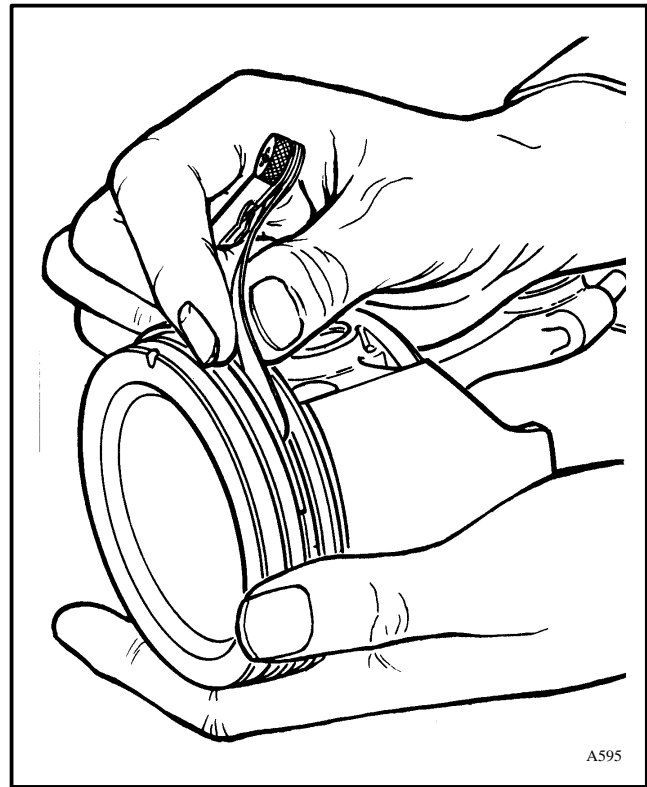

FIGURE 28. CHECK THE CLEARANCE BETWEEN THE PISTON RING AND THE GROOVE
1. Measure the clearance between the piston ring and the groove in the piston as shown in FIGURE 28. The clearances are shown in the ENGINE SPECIFICATIONS. Replace the piston if the clearances are greater than the specifications.